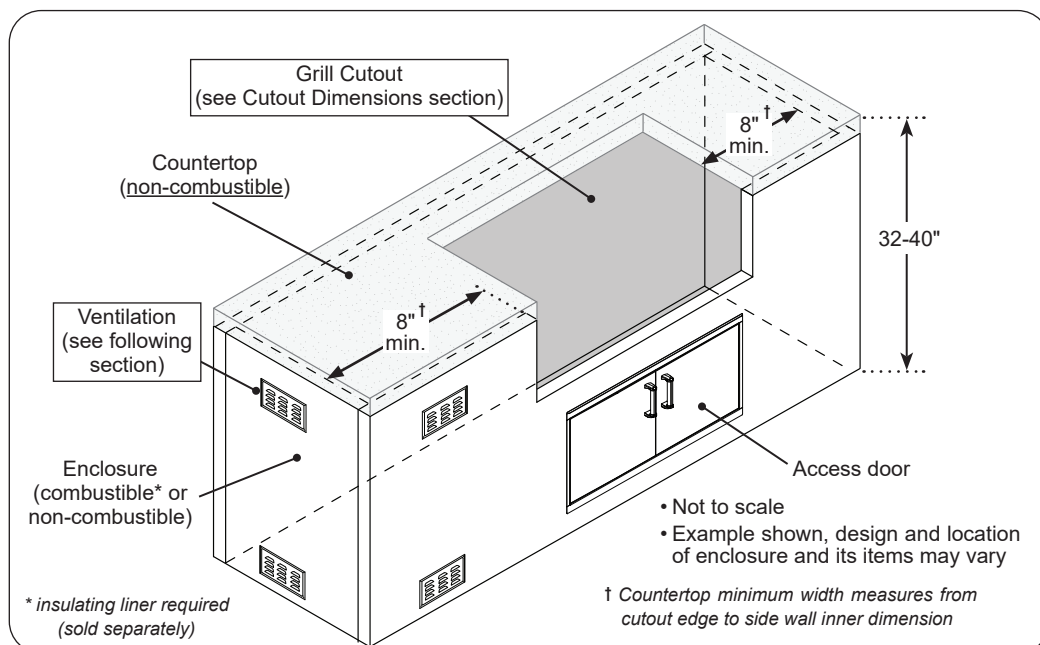

Fig. 10-1 Enclosure specifications
The enclosure can be constructed according to your individual preference, while following all guidelines found in this manual. **The enclosure MUST (see Fig. 10-1):**
- have an 8" min. clearance between the grill cutout side edge and the inner side wall (when free-standing, away from walls)(see Fig. 10-1)
- meet all requirements found in Fig. 10-1 and the following sections